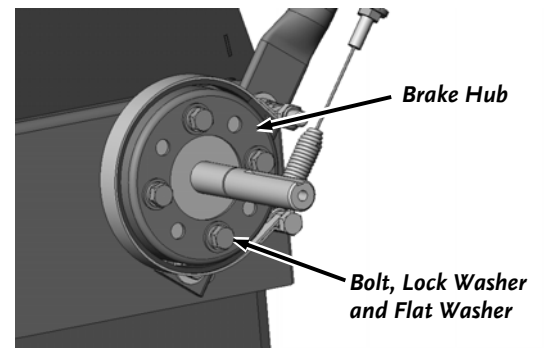

Figure 52
2. Remove the four Bolts, Lock Washers and Flat Washers from the Brake Drum with a 1/2" Wrench and pull the Drum from the Axle (**Figure 52**).